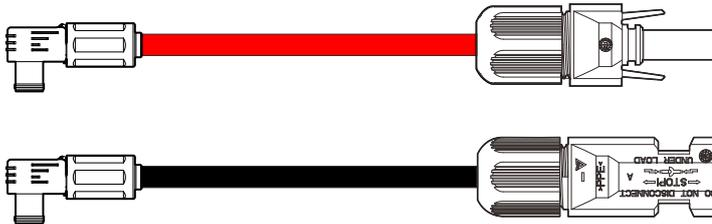

Figure3-37 Tighten the lock nut
Step 4 Tighten the locking nuts of the energy storage positive and negative connectors and the battery positive and negative connectors to corresponding insulating shells, as shown in Figure3-37.